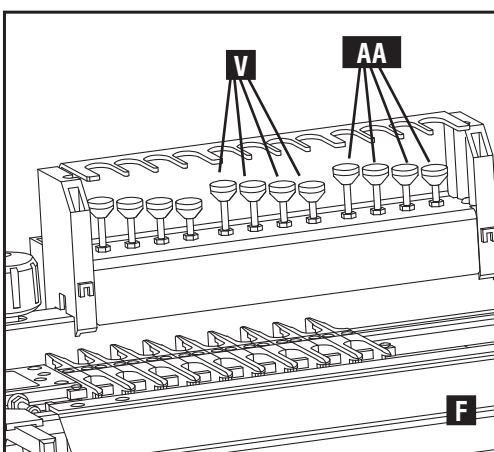
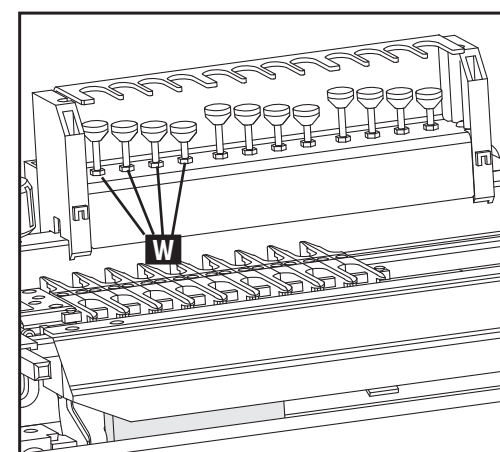

Fig. F13
Fig. F14
11. Replace stabilizer bar (F) Fig. F13.
- If using the 24" OMNIJIG® with the standard variable finger template, then use one of four depth gauges located at (V) Fig. F13
- If you are using the accessory 24" half-blind/sliding tapered template (77248), the "user defined" (AA) bit depth gauges or the "single-pass/half-blind" bit depth gauges (V) will need to be manually set according to instructions included in the appendix.
- If using a 16" OMNIJIG with the standard half-blind/sliding tapered template, then the router bit depth should be set using one of four depth gauges located at (W) Fig. F14.